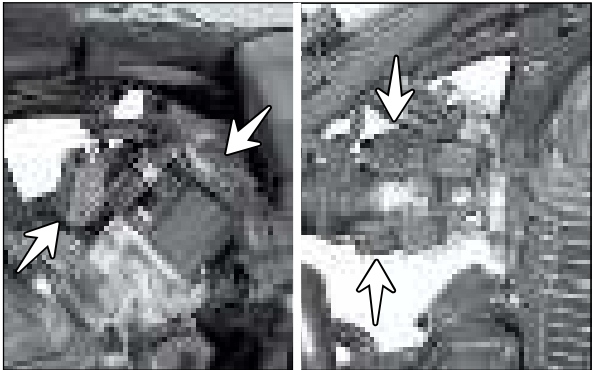

Fig. 3.26
- Disconnect sensors connectors from (4 Nos.) from throttle body assembly. (Fig. 3.26)